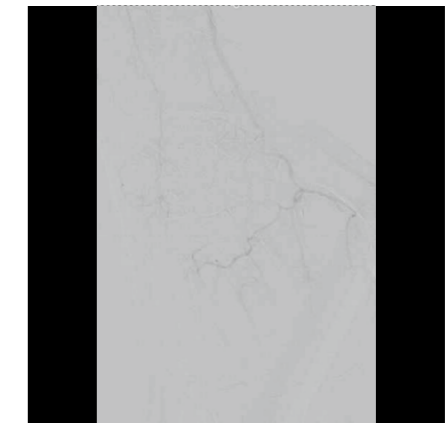

Figure 6: Corkscrew appearance of thromboangiitis obliterans (Buerger Disease) is revealed under Hi-Def mode.
Thromboangiitis obliterans (Buerger’s Disease) is caused by small blood vessels that become inflamed and swollen – usually as an adverse reaction to tobacco. The blood vessels then narrow or get blocked by blood clots (thrombosis). Blood vessels of the hands and feet are mostly affected. “Seeing what you need to, particularly in the small vessels can be a big advantage in diagnosis.” Dr. Bertolet shared his experience of using Hi-Def to diagnose small vessel disease. “This gentleman was suspected to have Buerger’s Disease. We wanted to do an angiogram in order to help us make that diagnosis. With hi-def mode we could detect the corkscrew appearance of the vessels that is classic in Thromboangiitis obliterans (Figure 6). It really helped in this gentleman to have a clearer angiographic diagnosis of Buerger Disease.”
Figure 6: Chronic total occlusion in the middle finger (A) Guidewire advanced to the distal digit under the Hi-Def mode (B). A tip injection from the microcatheter under the Hi-Def confirmed the wire is in true lumen (C). Final confirmation of revascularization in standard FPD view (D). The middle finger was completely healed (F) a few months later compared to the ulcer prior to intervention (E).